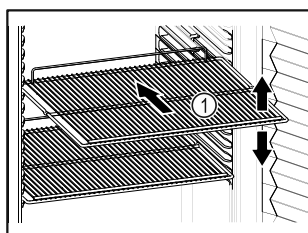

Fig. 64 Example illustration
- ❑ If there are adjustable shelves *Fig. 64 (1)*, position them as required.